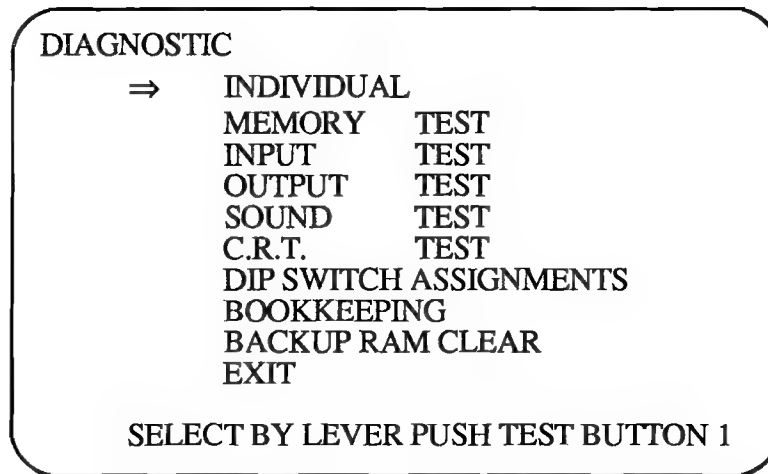

FIG. 1
- (1) Push the TEST SW button to display the test menu (Fig. 1).
- (2) Move the lever upward or downward and bring the arrow to the desired position.
- (3) When each test is finished, press the TEST SW button again to display the test menu (Fig. 1). To end the test program, bring the arrow to EXIT and push the TEST SW button.
INDIVIDUAL: Indicates only the item which the arrow points to. Push the TEST SW button again to display the test menu (Fig. 1).
CONTINUE: After displaying the item which the arrow points to, push the TEST SW button again to proceed to the following test in the order as indicated in the Fig. 1 test menu.